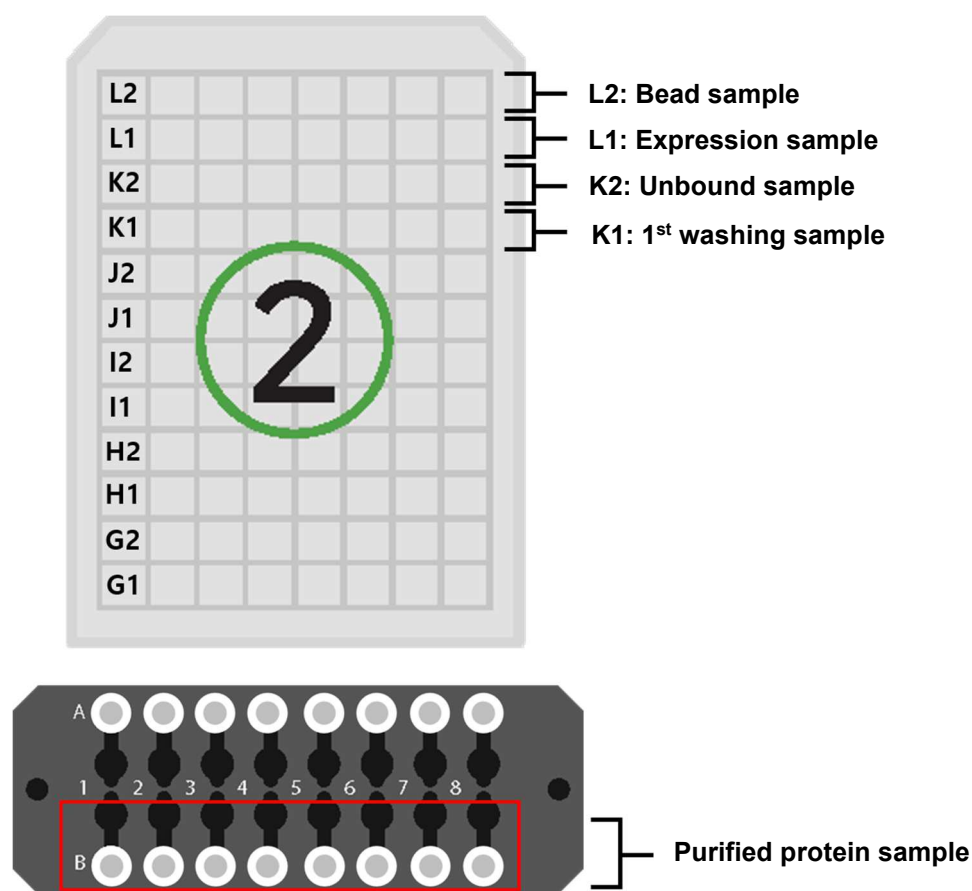

Figure 6. Samples for each row of Cartridge ②.
After protein synthesis with *ExiProgen*[™], the final target proteins of about 120-130 µl is collected from Dialysis tube located at the **row B** of the Reaction block (Figure 6). Final protein samples may contain Ni-NTA magnetic beads, but this can be removed by centrifugation before use.
If necessary, reaction samples from protein expression and purification can be recovered from the rows L1, L2, K1, and K2 of Cartridges ② as shown in Figure 6.